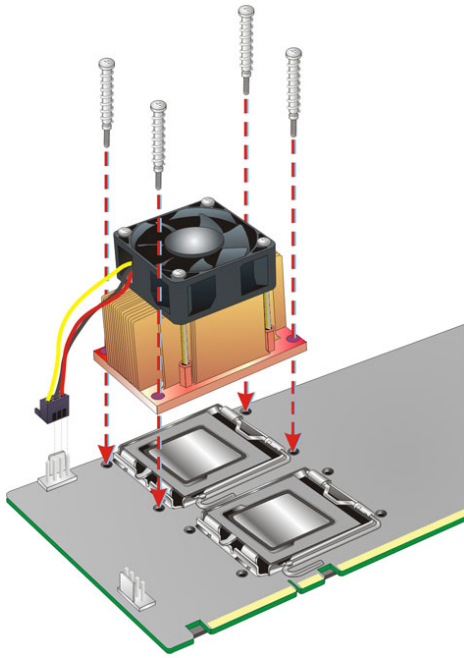

Figure 4-8: CPU Fan Installation – First
- Step 4:** Secure the cooling kit to the board and the SBC support bracket. Use a screwdriver to tighten the four screws. Tighten each nut a few turns at a time and do not over-tighten the screws. (See **Figure 4-8**)